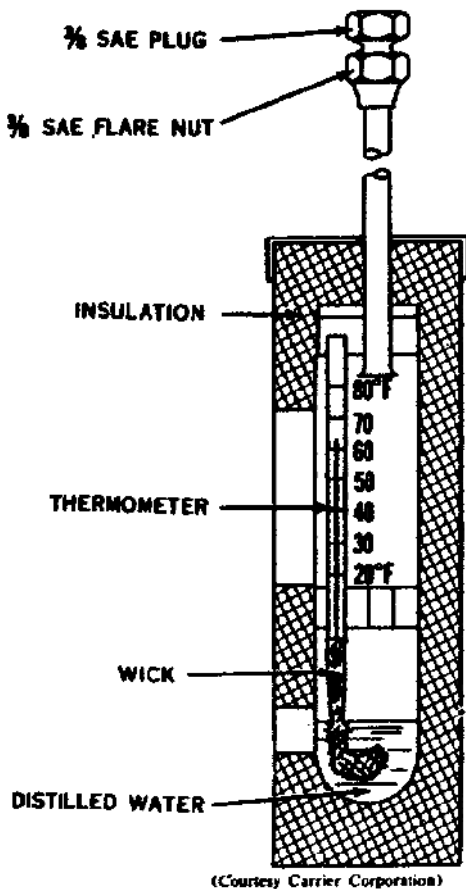

Figure 16. Vacuum indicator.
(1) Obtain a vacuum pump that will produce a vacuum of 2 inches Hg absolute. Do not use the compressor as a vacuum pump since this may cause serious damage to the compressor.
(2) Obtain a vacuum indicator similar to that shown in figure 16. These indicators are available through manufacturers' service departments.
(3) Keep the ambient temperature above 60° F. to speed the evaporation of moisture.